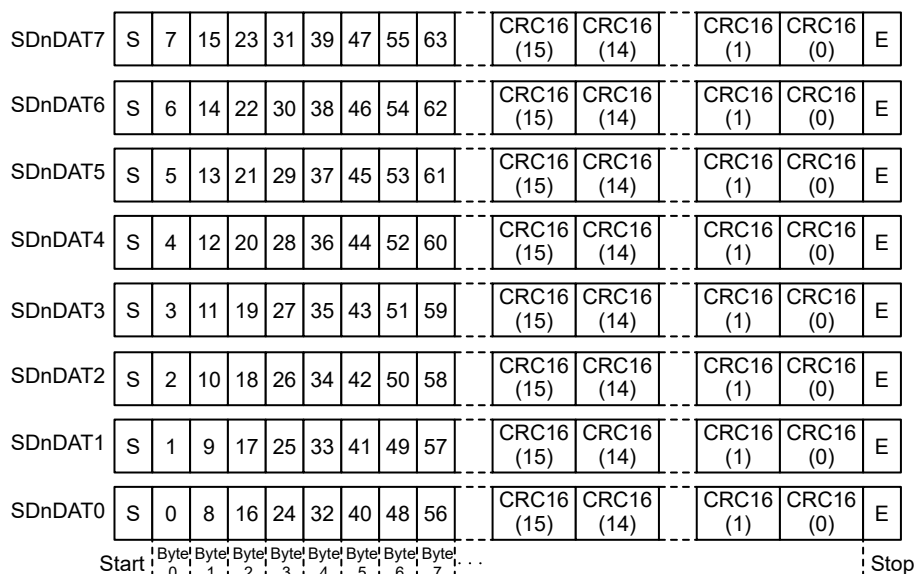

Figure 48.4 SDnDAT in 8-bit width mode
2. The received data is stored in SD_BUF of the MMC Host Interface (see Figure 48.4).